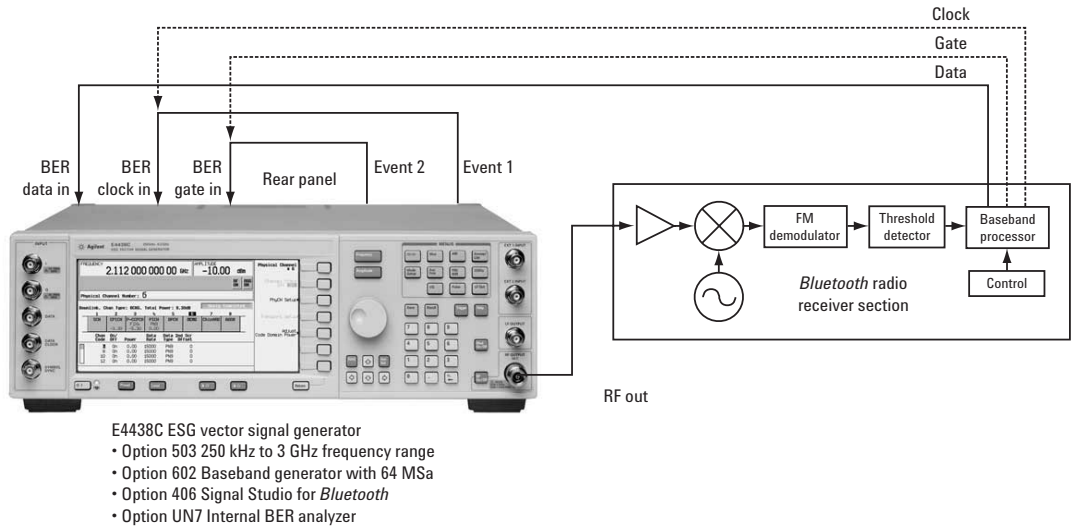
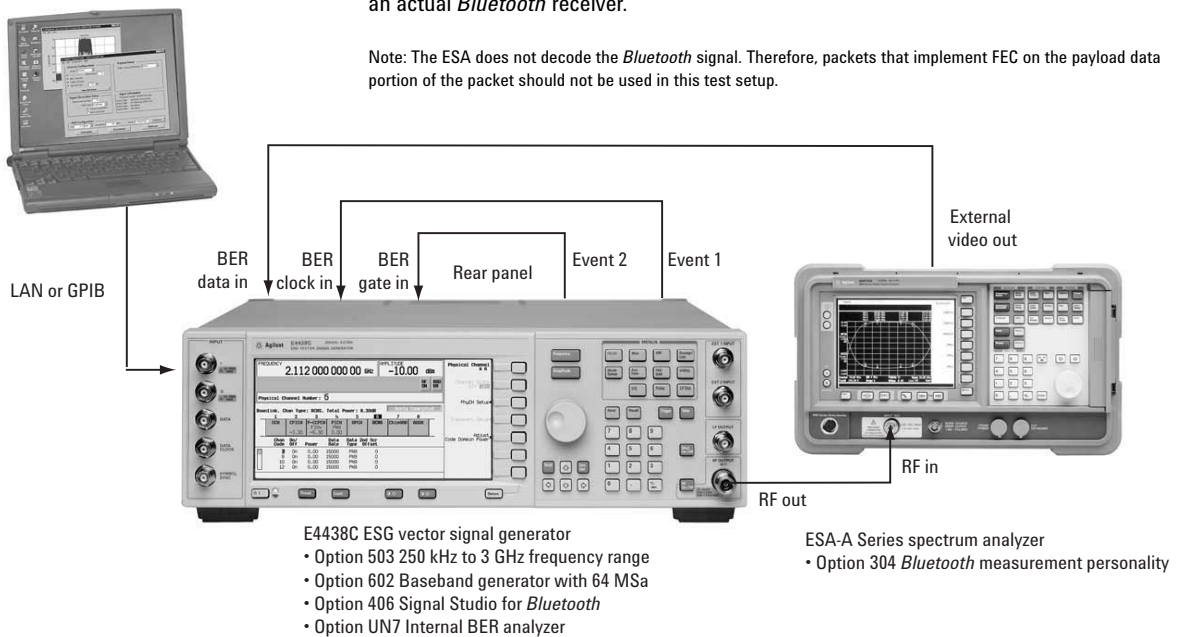

Figure 40. BER test setup for a *Bluetooth* device in “continuous receive” operating mode.
Figure 42. Example BER measurement set up using the ESA to demodulate the *Bluetooth* signal generated by the ESG.
An example BER measurement setup is illustrated in Figure 40. In this setup, the ESG is configured to provide a *Bluetooth* modulated RF signal using Signal Studio. The RF test signal consists of a sequence of *Bluetooth* modulated DH1 packets with continuous PN9 payload data.
This example illustrates the procedure for performing clock/gate delay calibration using Signal Studio. In this example, the measurement setup illustrated in Figure 42 is used. This is very similar to the test setup illustrated in Figure 40; however, for demonstration purposes, the Agilent ESA series spectrum analyzer (with the *Bluetooth* measurement personality) is used to demodulate the *Bluetooth* signal generated by the ESG instead of an actual *Bluetooth* receiver.
1. Connect the test setup as shown in Figure 42 and preset the ESG.